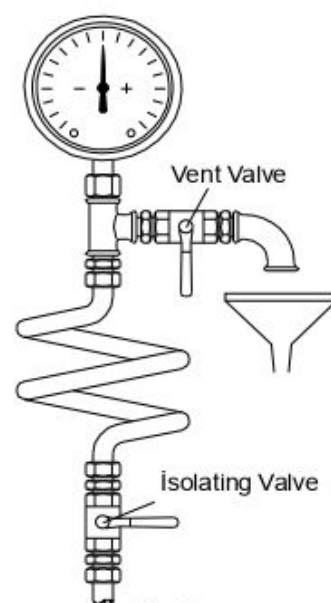

Fig. 6
- Pressure and vacuum gauges must be properly anchored and connected at the measuring points located on the pipes approximately 2D close to the flanges with approximately 8 mm diameter tubing with pig tail configuration to lessen pressure fluctuation. For safety purposes isolating and vent valves should be fitter before the gauges (**Fig. 6**).